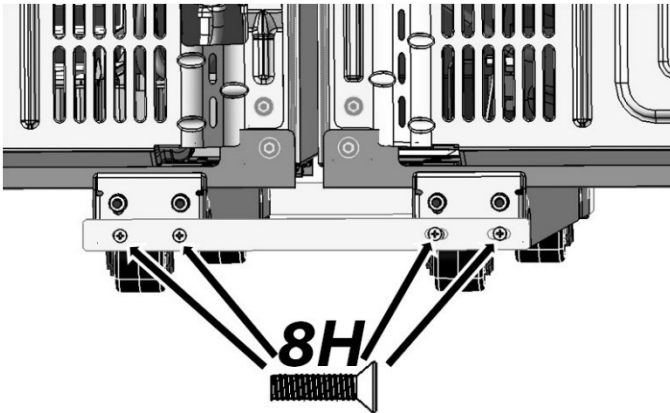

Figure 11
7. Attach the other 9H bracket to the rear levelers as shown in Figure 11, keeping the right screws loose.